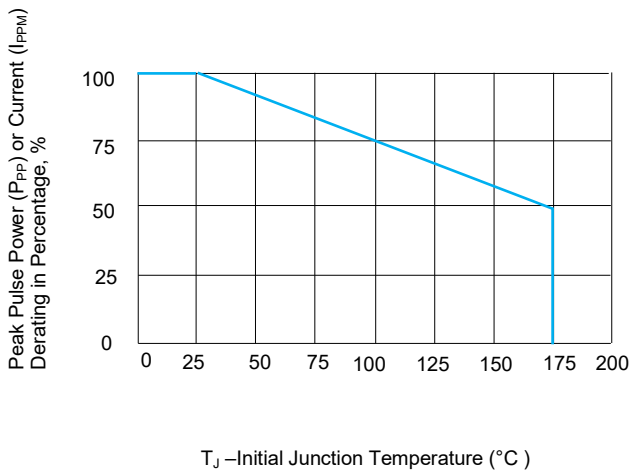
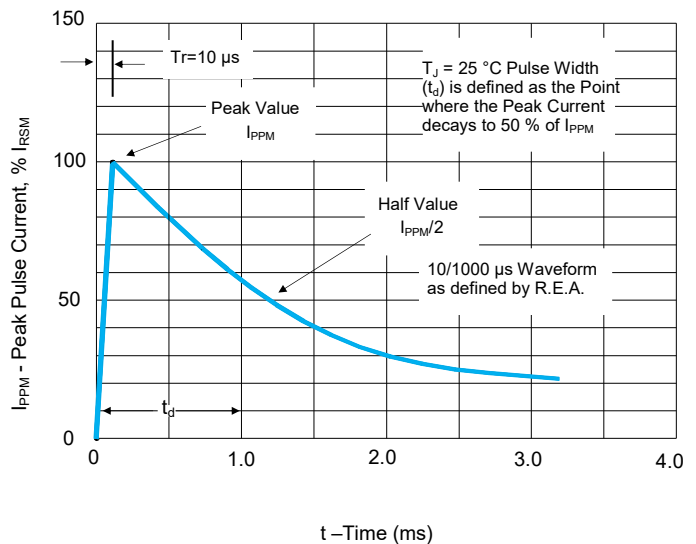

FIGURE 3 Peak Pulse Power Derating Curve
FIGURE 4 Pulse Waveform
1. Non-repetitive current pulse, per Fig. 4 and derated above  $T_J(\text{initial})=25^\circ\text{C}$  per Fig. 3.